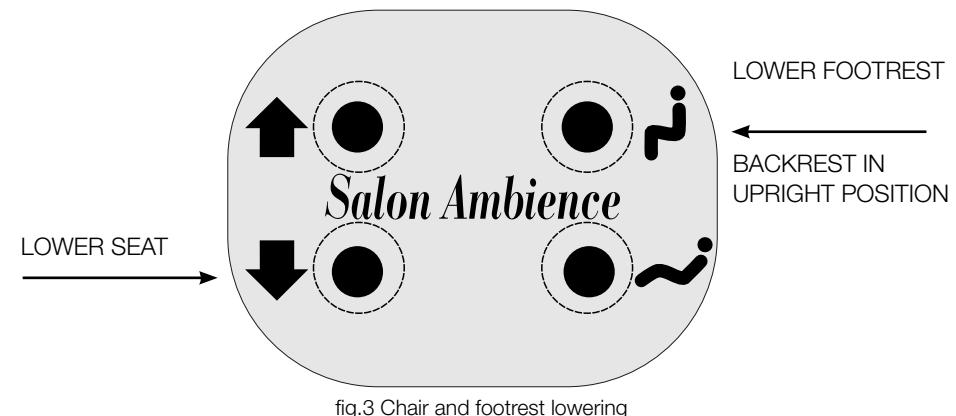

fig.3 Chair and footrest lowering
- 8\_ Lower the chair and the footrest as low as possible, using the appropriate push-button panel key as shown in figure 3. Each key has to be held down to command the actuator motion to make the downward movement begin. To stop the downward movement, release the command key.